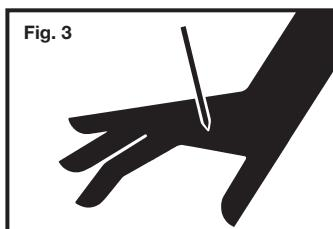

Fig. 3
**5. Never point tool at yourself or others in work area.** Serious injury or death may occur if the tool is activated. Fig. 3